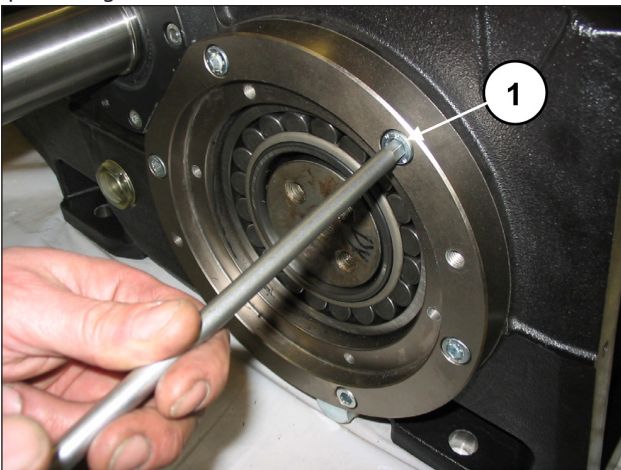

Fig. 22
Unscrew the screws of the two bearing support covers (pos. ①, Fig. 22).